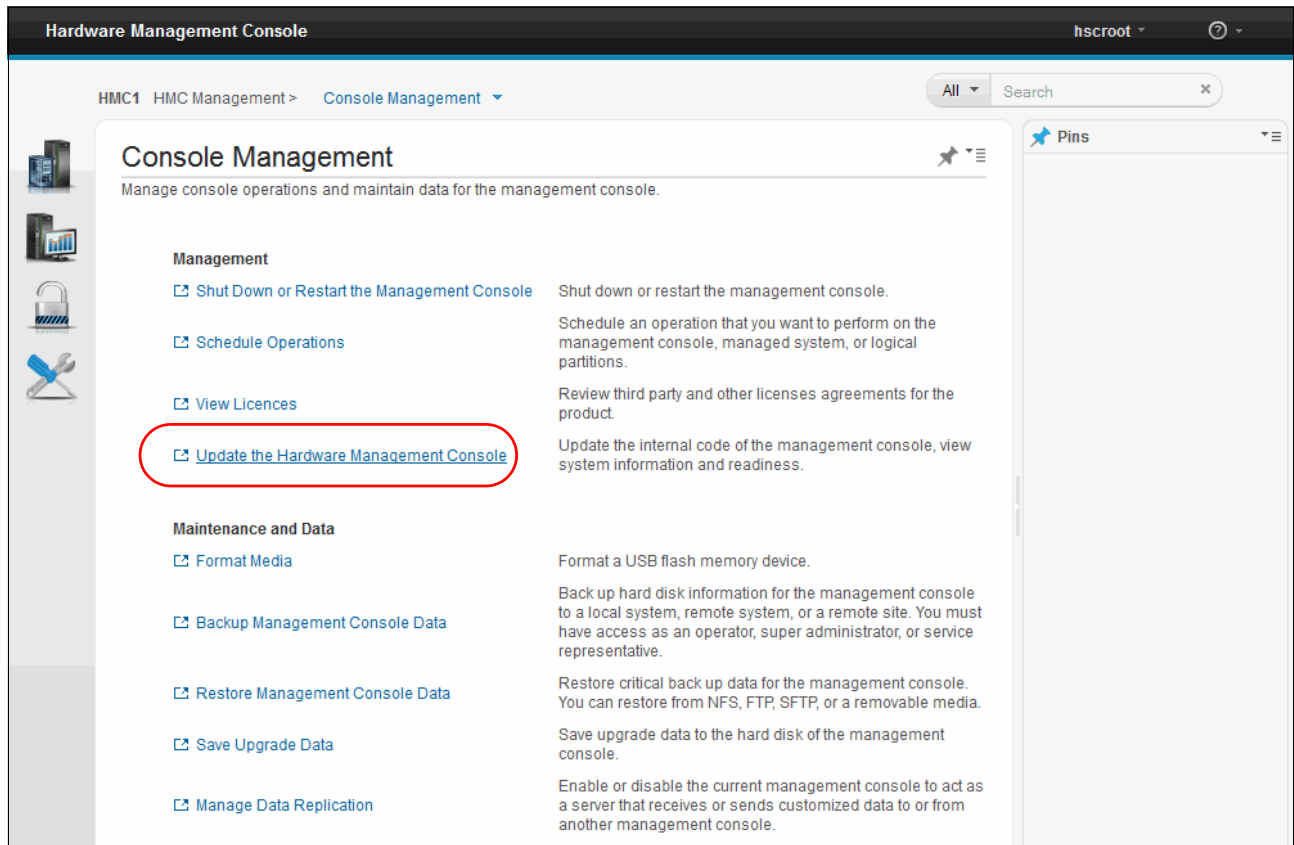

Figure 3-114 Update the HMC
2. In the Console Management panel (Figure 3-114 on page 245), click **Update the Hardware Management Console**.
Note: If your HMC was already connected to managed systems, and has an advanced configuration, you must back up your current configuration. This can be done with the *Backup Management Console Data* task, also shown in Figure 3-114 on page 245.